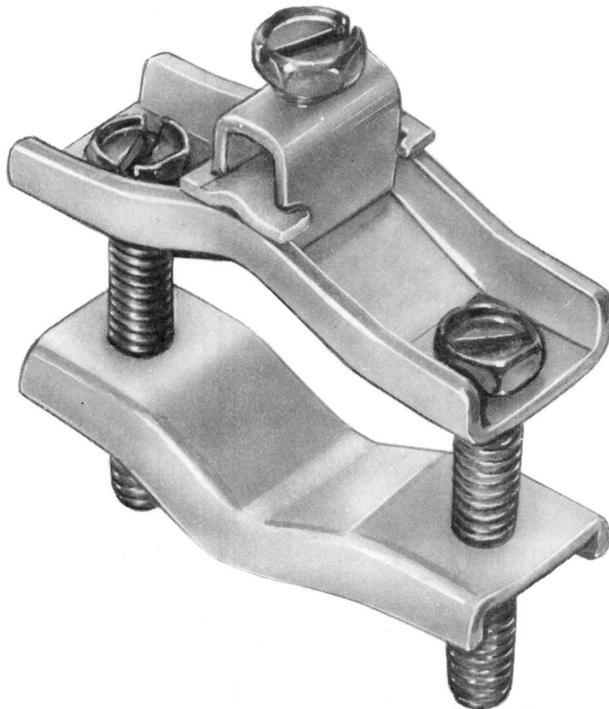

Fig. 65—B Ground Clamp
6.24 The B ground clamp (Fig. 65) is installed as follows: